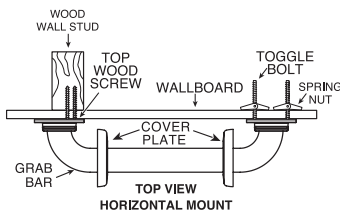

FIGURE 4
3. On the end that will be mounted into **wallboard**, use the 3/8-inch power drill and 5/8-inch drill bit to drill three (3) holes where marked. **NOTE:** If installing Grab Bar over ceramic tiles, the 5/8-inch carbide drill bit will be needed for drilling through tile, in order to prevent damage to tiles. Once a hole has been drilled through the tile, use the 5/8-inch drill bit to drill through the backing support for the tile.
5. Insert one (1) **WOOD SCREW** into the end of the Grab Bar that will be installed into the wood wall stud. Screw into wall and wall stud (**HAND TIGHTEN ONLY**) (see Figure 4).